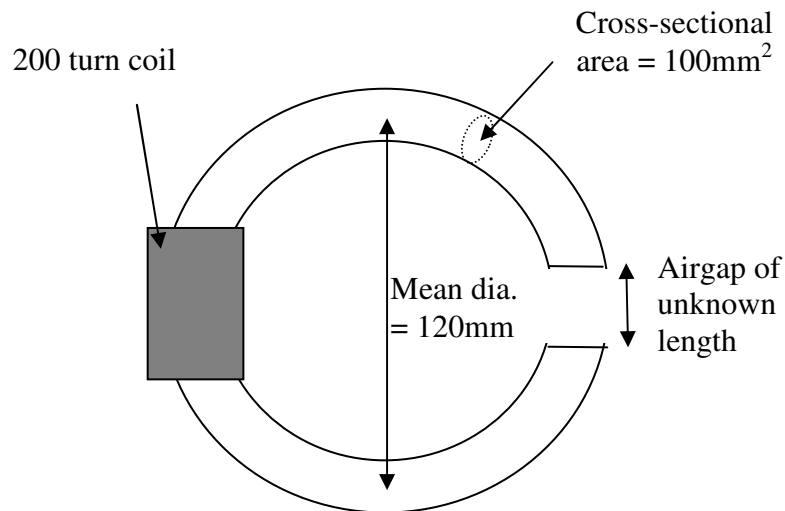

Figure 6.1
- (i) Calculate the values of the capacitors which would be required in each phase to achieve an overall power-factor of 0.95 lagging for the plant when operating at full capacity. (5)
- (ii) Calculate the magnitude and phase of the line current drawn by the plant when operating at full capacity with the power factor correction capacitors connected. (2)
- (iii) What is the maximum voltage rating of the capacitors? (1)
- (iv) Briefly state an advantage to the network of including power factor correction capacitors into the plant. (1)
- (i) Calculate the reactive power that the synchronous machine has to provide to achieve an overall power-factor of 0.95 lagging, without the capacitor bank. (2)
- (ii) Hence calculate the VA rating of the synchronous motor and the power-factor at which it operates. (2)
- (iii) Calculate the effective phase impedance of the synchronous motor when operating under these conditions. (2)
- a. Figure 6.1 shows a schematic of an inductor which consists of a circular silicon iron core which includes a small airgap. The core has a fixed relative permeability of 2000. When a DC current of 4A flows in the coil the flux density in the airgap is 0.8T. You may assume the airgap has the same cross-sectional area as the core and the permeability of air, $\mu_0 = 4 \times \pi \times 10^{-7} \text{H/m}$.
- (i) Calculate the length of the airgap in the core. (4)
- (ii) Calculate the self-inductance of the inductor. (1)
- b. The inductor of Figure 6.1 is now connected to a 100V_{rms} sinusoidal AC supply. If the coil has a resistance of 5Ω , calculate the frequency required to provide a maximum flux density of 0.8T in the airgap. (4)
- (i) The instantaneous voltage across the actuator at $t = 1.5\text{s}$ (3)
- (ii) The instantaneous power dissipation in the resistor at $t = 2\text{s}$ (1)
- (iii) The maximum supply voltage which is required to enable the actuator to follow the desired current profile (3)
- (iv) The total energy drawn from the electrical supply over the 4.5 second duration of the process and hence the average power drawn from the supply over this period. (4)